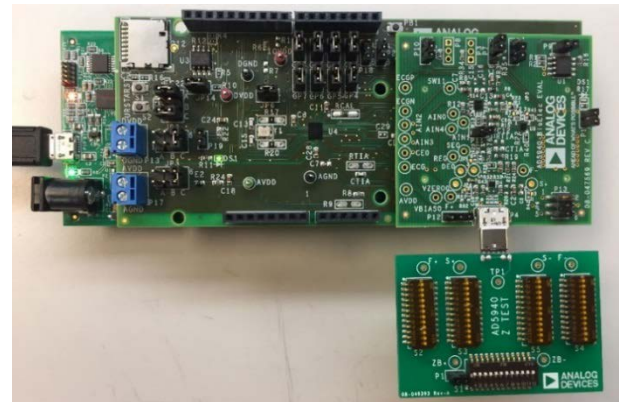

Figure 19. Body Impedance Hardware Setup
3. Plug the AD5940-BioElectric evaluation daughter card into the AD5940ARDZ board as in Figure 19.
4. Plug the AD5940 impedance test board into the microUSB port on the AD5940-BioElectric evaluation daughter card as in Figure 19.